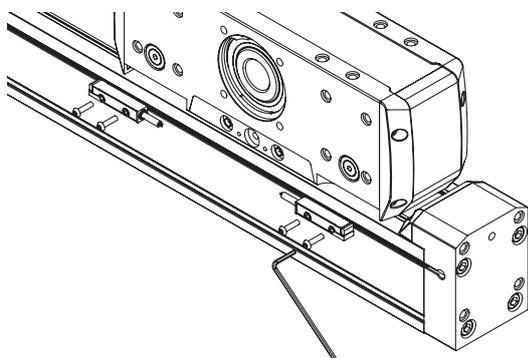

Fig. 6.43 Mounting the limit switches: HC-B (all sizes)
- ▶ Position the limit switches on the drive block housing (see Fig. 6.43).